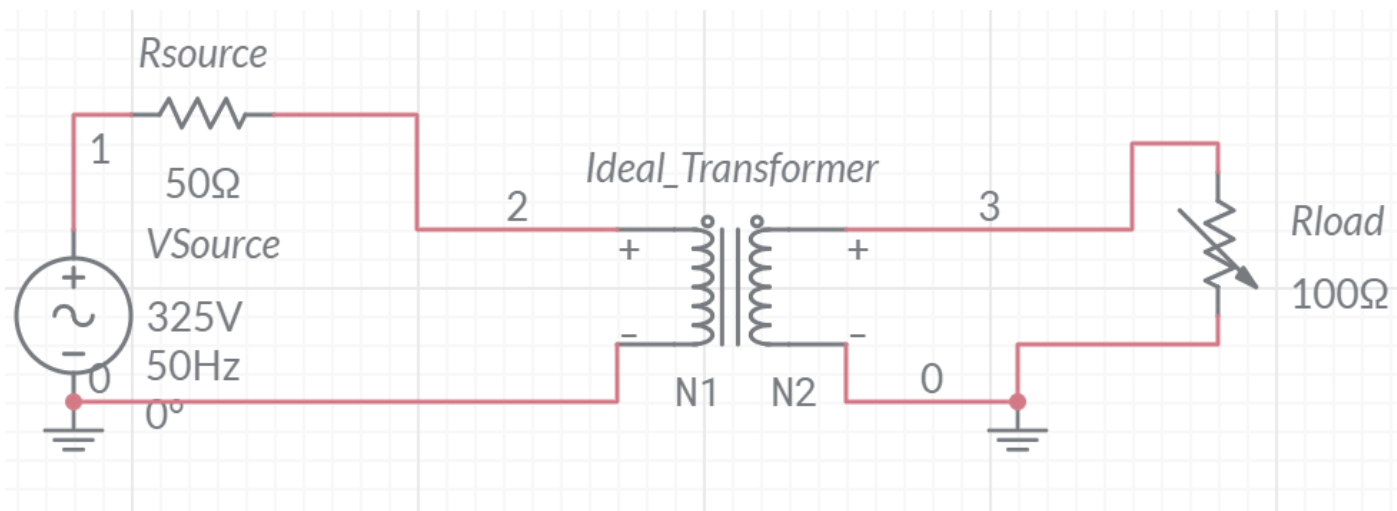

Fig.4 Simulation of the power supply with ideal transformer circuit
- The power supply along with the source resistance is connected to the primary while the load resistance (R_{LOAD} [Ω]) is connected to the secondary as shown in Figure.4. We will vary the load resistance and measure the efficiency of the power supply in Table.1